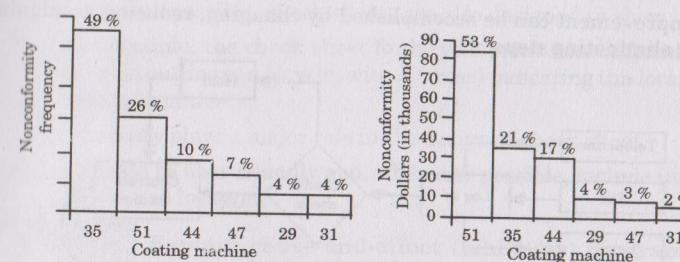

Fig. 3.2.1. Pareto diagram.
- A Pareto diagram is a graph that ranks data classification in descending order from left to right, as shown in Fig. 3.2.1.
- As can be seen from the Fig. 3.2.1 machine 35 has the greatest number of nonconformities, but machine 51 has the greatest dollar value.